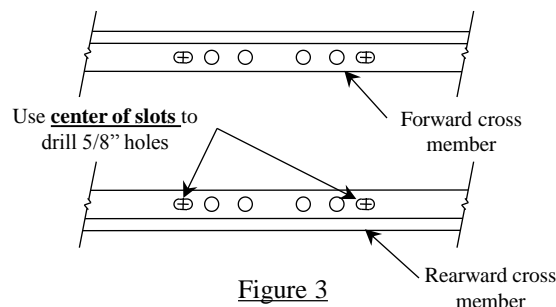

Figure 3
6. Install the frame bracket clamp by placing the clamp to the inside of the frame rail, insert the 1/2-13 X 4.50 GR5 carriage bolts through the square holes in the clamp and through the frame bracket with the threaded end pointing outwards. Install the 1/2 conical toothed washers and hex nuts. Some models require using hole in hitch bracket as guide to drill frame, see **Figure 3**.
8. **For 6300/630044 & 8339** use the **center** of the outer slots in the rearward hitch cross member as a template to drill 5/8" diameter holes through the truck bed as shown in Figure 3. Not all holes can be drilled from under the vehicle, but will be done later from inside the bed.